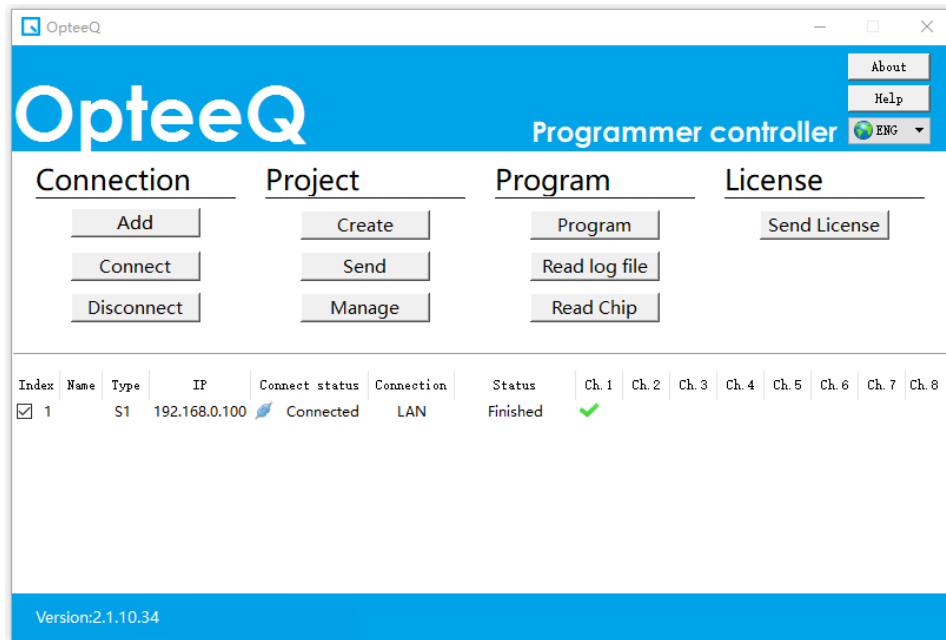

Figure 4.20: Programming Success Interface
6) When the programmer starts programming, the "BUSY" LED indicator in the programmer turns red. When programming is completed, the programming result is displayed in the software interface. the programming success interface will be displayed, as shown in Figure 4.20.